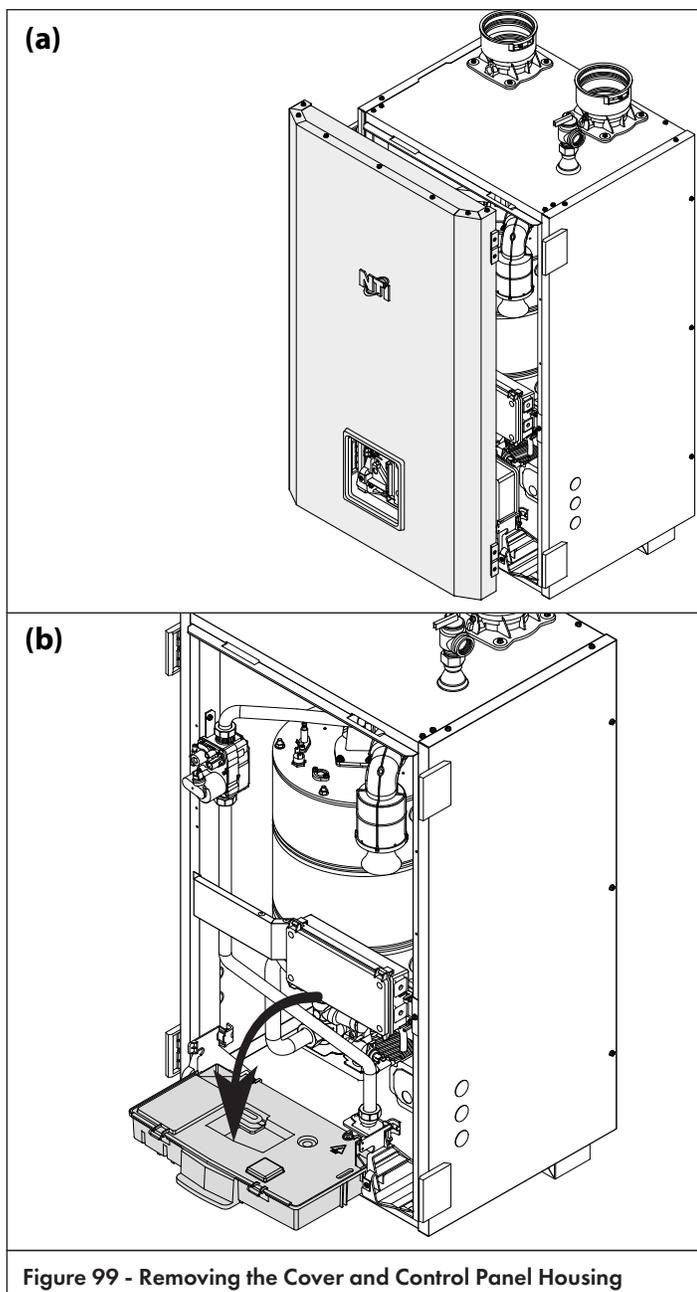

Figure 99 - Removing the Cover and Control Panel Housing
3. Remove the front panel as shown in Figure 99.